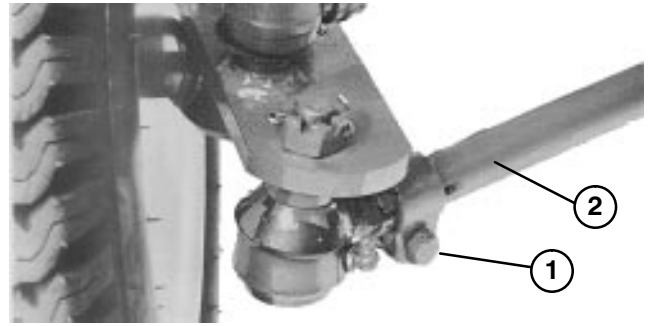

Figure 44
2. Loosen clamps at both ends of tie rods (Fig. 44).